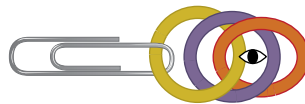

FIG. 3
4. Thread 1 open (orange) jump ring through the eye using a TE connection (page 22) and then close it. Rotate the jump ring in your chosen direction, forming an eye between the 2 jump rings at the end of the chain as shown (**FIG. 3**).